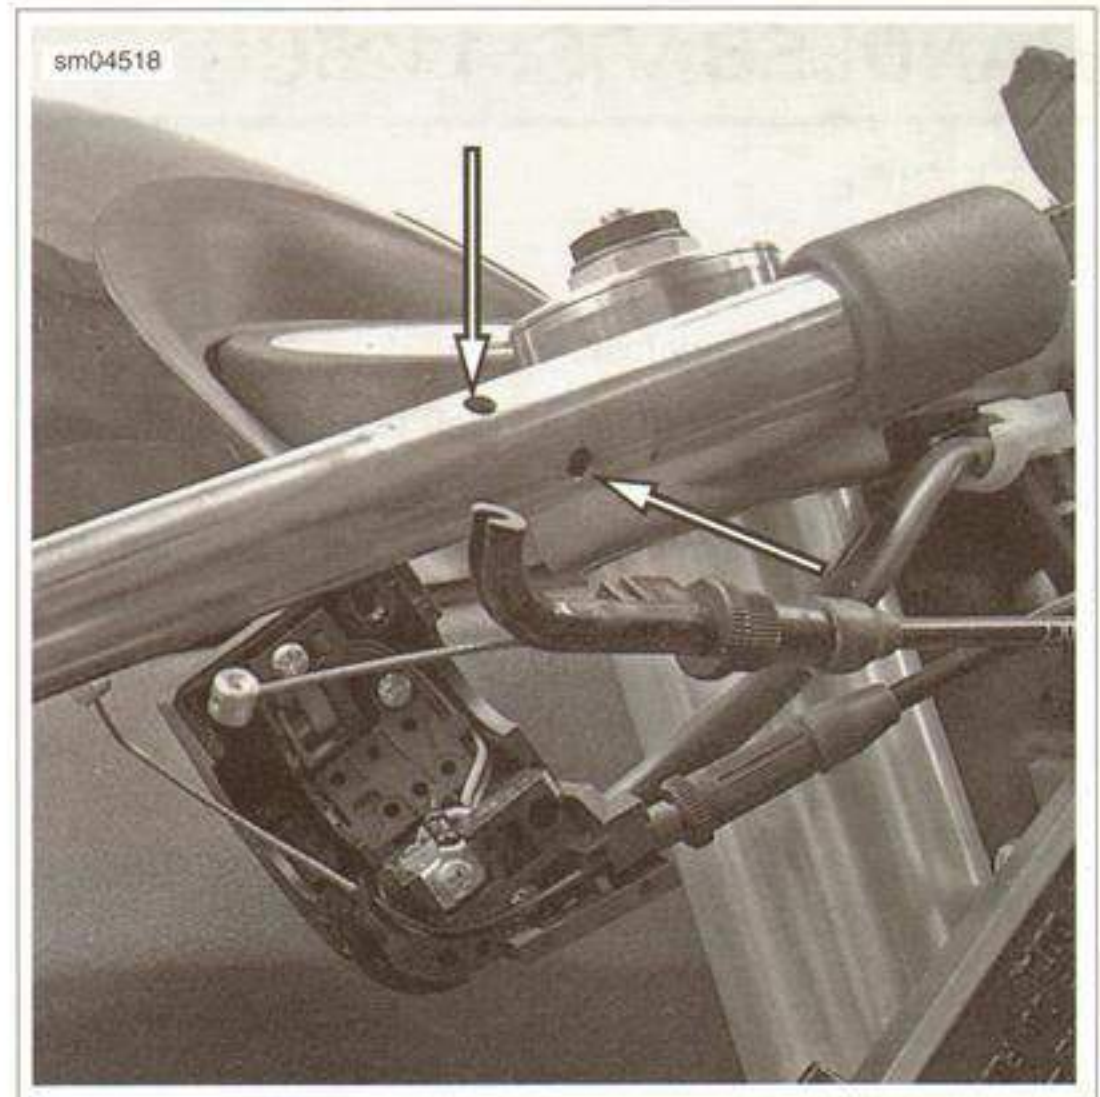

Figure 2-145. Switch Housing Alignment Holes
2. See Figure 2-145. Orient the clip-on switch housings holes forward and install the clip-on.